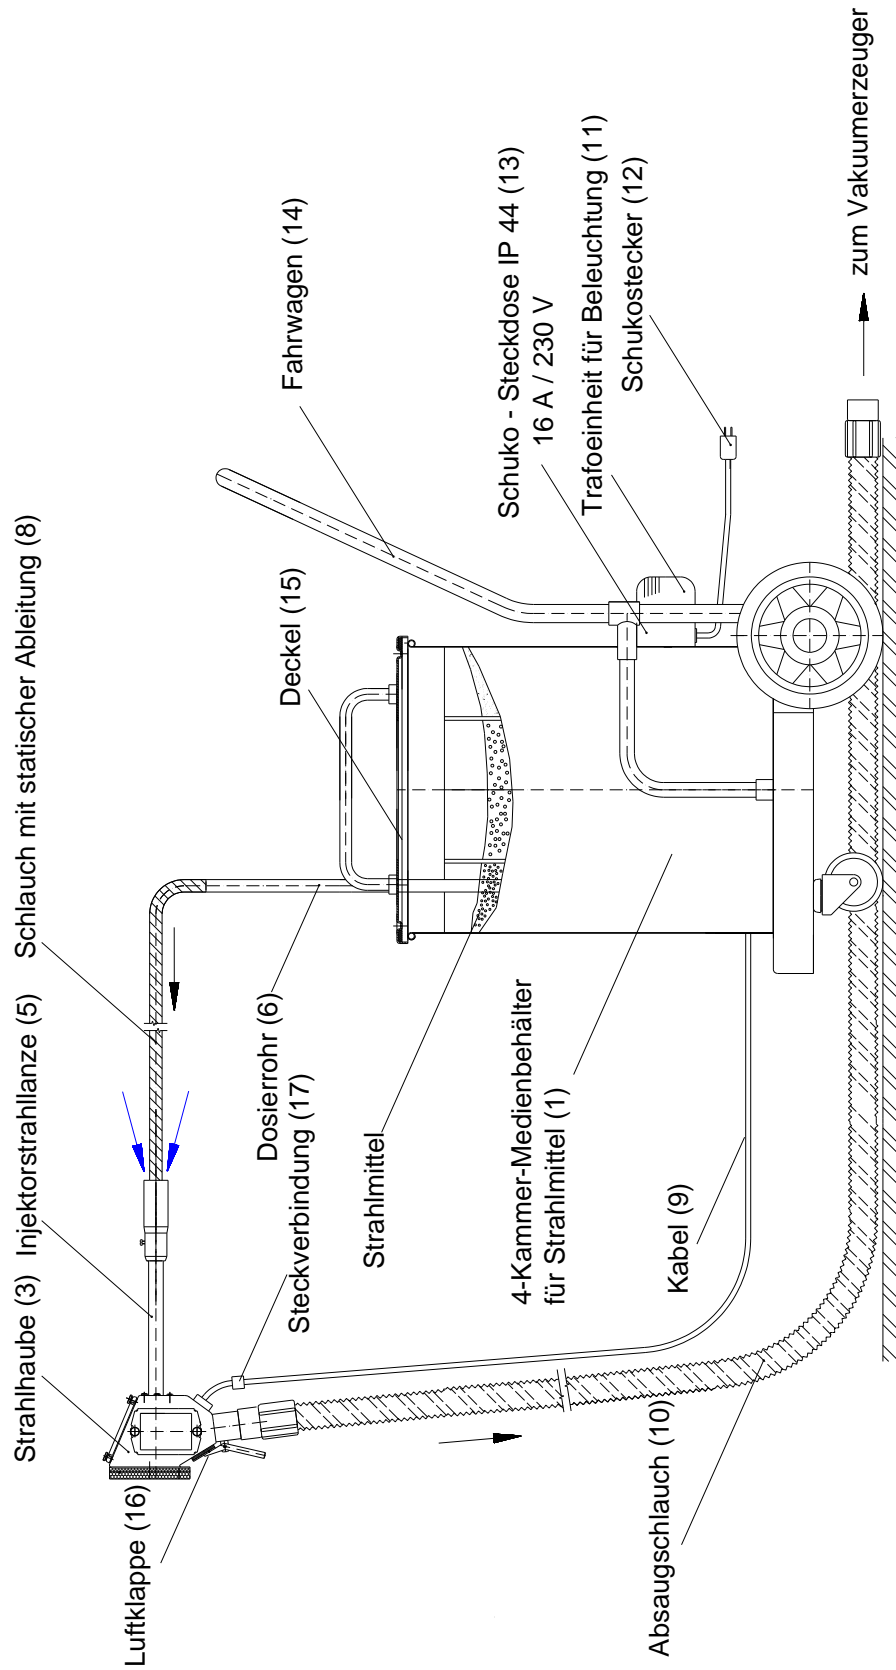
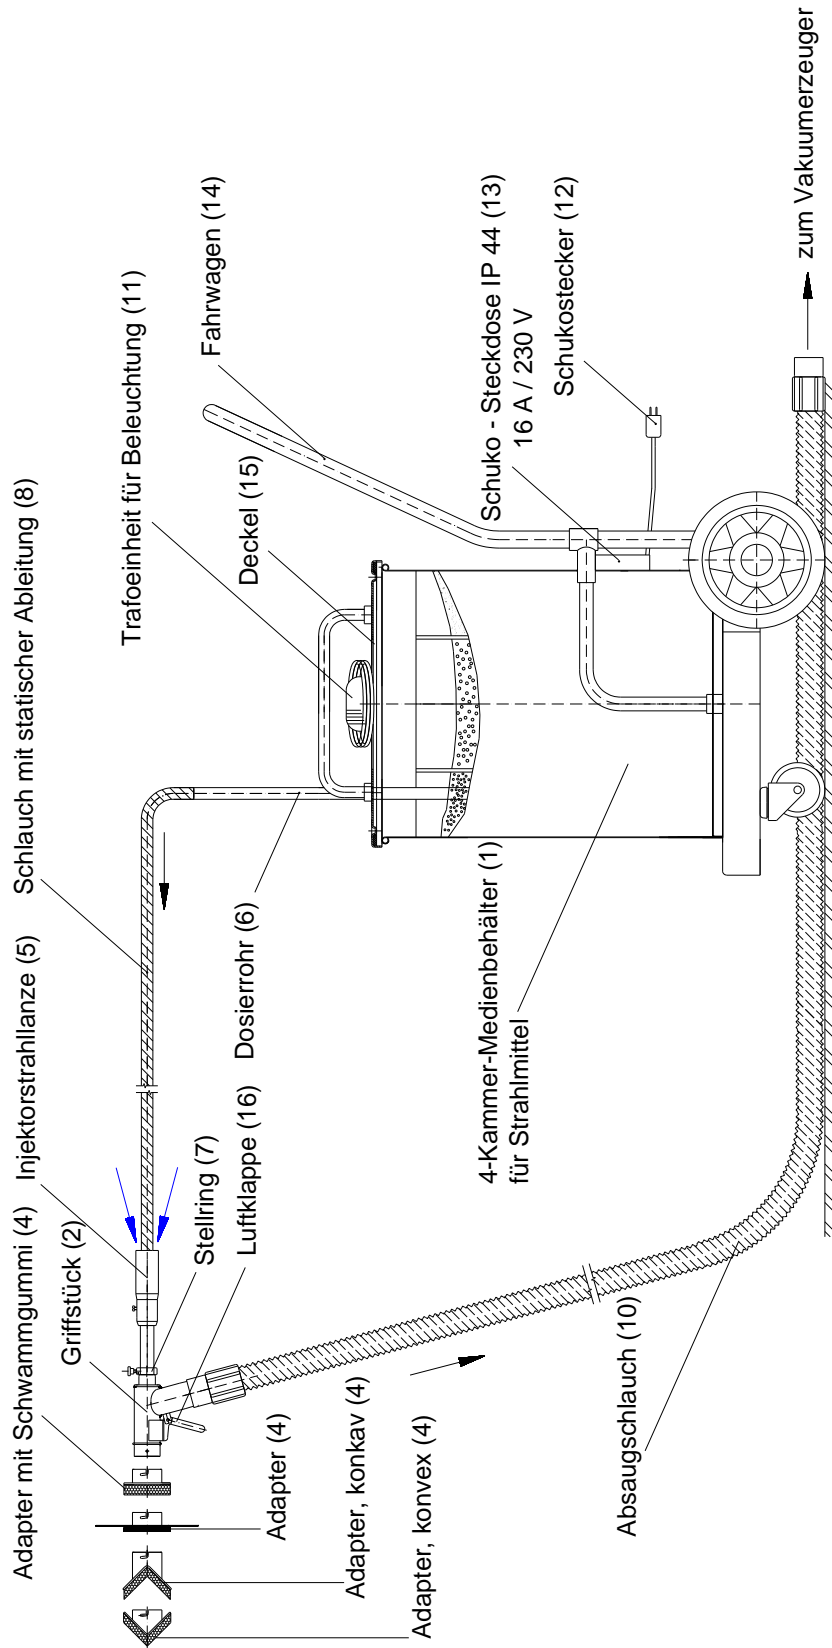

Fig. 2: Vacuum suction blasting system, workshop system with illuminated hood
Fig. 3: Vacuum suction blasting system, workshop system with grip and adaptor
As to the blasting hood, the following alternative exists: Illuminated hood (as shown in fig. 2), or grip with selectable adaptor (fig. 3).
The blasting hood (version fig. 2 or 3) is coupled to the suction unit by means of the suction hose (10).